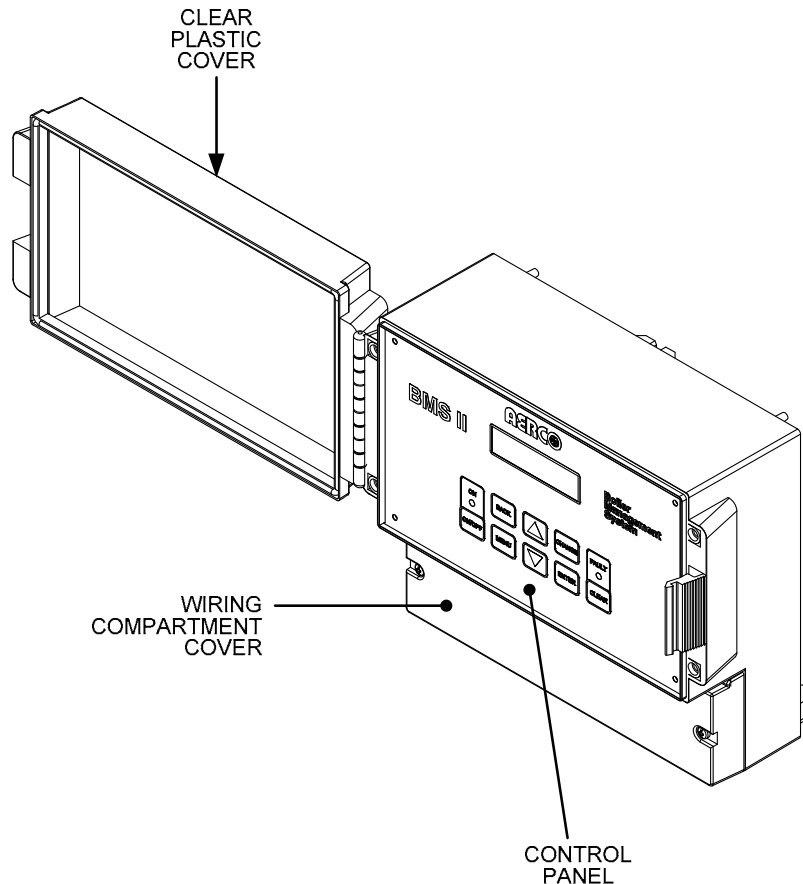

Figure 1-1. Boiler Management System II (BMS)
The BMS II (Figure 1-1) is a rugged, flexible controller designed to stage and coordinate the operation of up to 32 AERCO Benchmark Series, Modulex Series or KC1000 Boilers while maximizing operational efficiency. Under normal load conditions, the BMS II can precisely regulate the header temperature of the boiler plant within $\pm 2^{\circ}\text{F}$.
2. Remove the wiring compartment cover from the front of the BMS II (see Figure 1-1) to provide access to the slots for the two lower mounting screw locations.